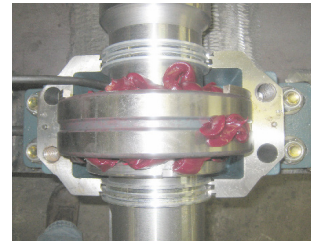

Figure 3
9. Fill the bottom bearing housing to approximately 1/2 full and apply some grease to the bearing cap. See Figures 3 through 5.